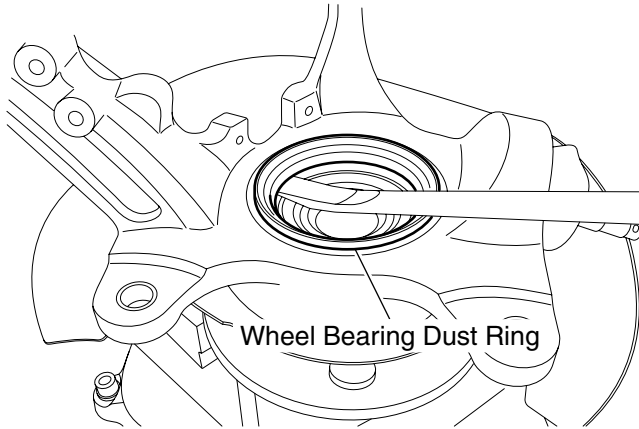

Figure 1. Wheel Bearing Dust Ring Removal
1. Remove the dust boot and wheel bearing dust ring. See Figure 1.